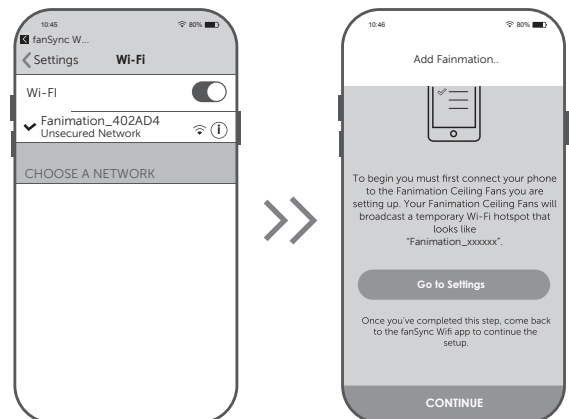

Figure 6
- ☐ 6. Secure the glass to the LED assembly by twisting in a clockwise direction. Twist the glass gradually **until it snaps onto the LED assembly**. Do not over-tighten. (Figure 6)
- ☐ 6. In the WiFi settings on your smart device, select the Fanimation_XXXXXX device and return to the fanSync WiFi APP and press "CONTINUE". (Figure 6)